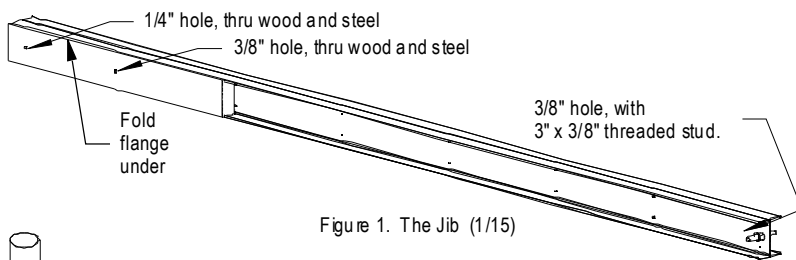

Figure 1. The Jib (1/15)
1. Cut two 2x4 25-ga sheet-metal wall studs to ~7 feet long. (Keep the scrap.) Fold in the small flanges, top and bottom, at the end of one of the two studs for a length of two feet. (Figure 1).